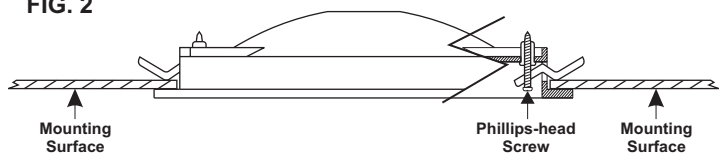

FIG. 3
8. Now the interior light's lens may be installed as shown in Fig 3. The lens must be aligned as shown and simply snaps into place.